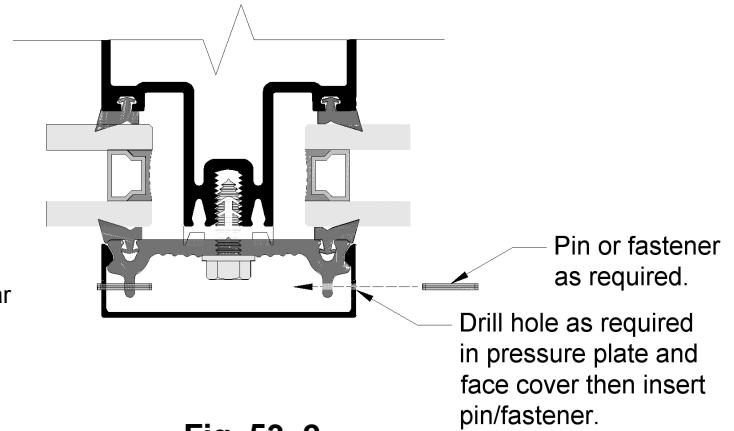

Fig. 53.2
- L. Pinning requirements(See Fig 53.2):